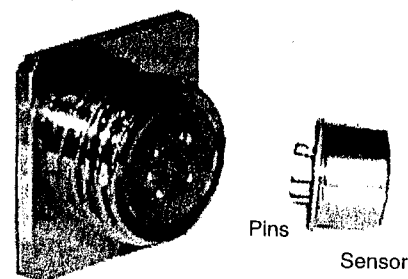

FIG 8
4. Hold the unit with the front end facing you and note the sensor connection inside the threaded bushing on the end of the unit. Note that there are five (5) holes corresponding to the five (5) pins on the sensor – three (3) on the left and two (2) on the right (refer to Fig. 8).